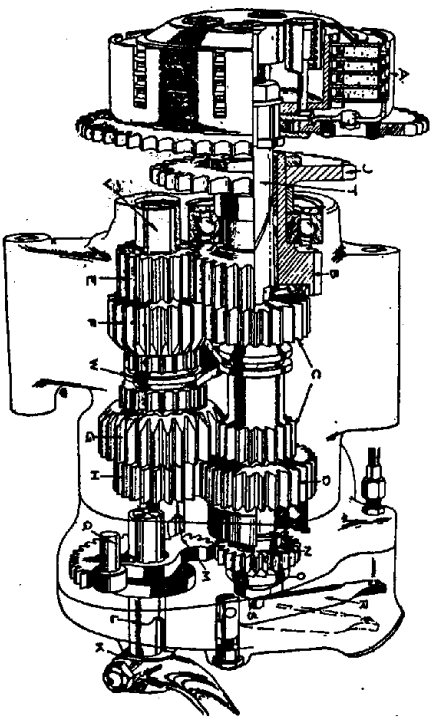

FIG. 27.—CUTAWAY VIEW OF THE C.P. GEARBOX FITTED TO 1950-51 MODELS.
- (4) Gears on layshaft in the order shown in Fig. 27, the fixed pinion is fitted to the short end of the layshaft.
- (5) Hold the layshaft assembly in hand, with the fixed pinion on the left. Take up the camshaft (small pinion to the right), engage the larger of the two striker-forks in groove for sliding clutch.
- (6) Hold the mainshaft sliding gear, large pinion to the left, along the camshaft assembly, so that the smaller striker-fork engages with its central groove.
- (7) Insert the entire assembly into the gearbox shell, sliding the mainshaft gear along the mainshaft, and push home, locating the camshaft and layshaft into respective bushes.
- (8) Slide the remaining free pinion on mainshaft.
- (9) Pawl, spring and slotted screw, locating gears.
- (10) The twelve rollers, with grease to hold in position.
- (11) The mainshaft ball bearing for kick-starter case, locate with circlip.
- (12) Paper washer for gearbox shell, with grease applied on gearbox face.
- (13) The kick-starter case, ensure rollers enter housing in kick-starter case, the four nuts for case, and firmly tighten.
- (14) The ratchet-pinion bush and spring on mainshaft ratchet pinion (teeth outwards), the ratchet driver, fully tighten fixing nut.